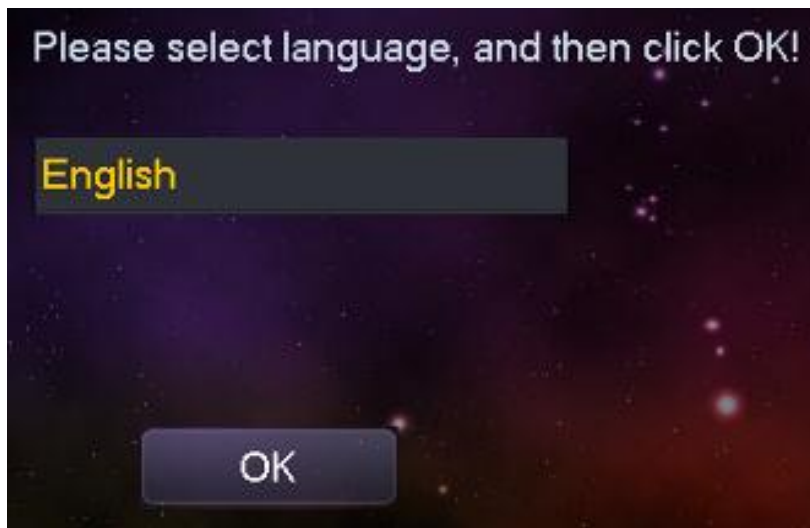

Figure 2-7
a) When device is booting up, you can set device language. System supports English, Russian, Italian, French, Germany, Dutch, Spanish, and Portuguese by default. See Figure 2-7. After device booted up, you can go to Settings->Language->002236 to change language again.